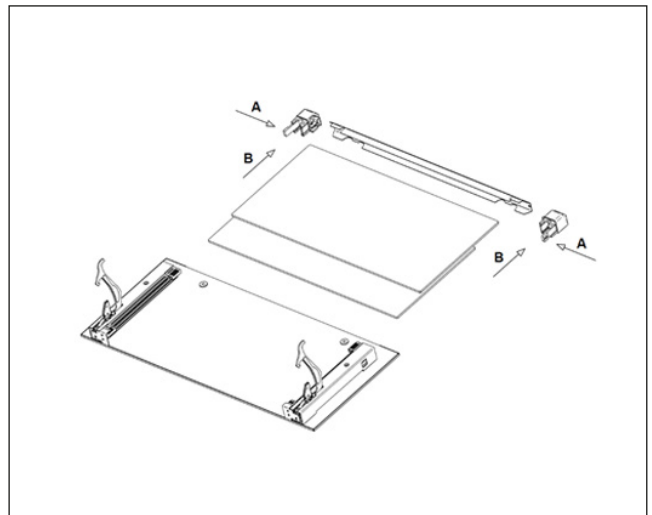

Fig.1
- At this point it is possible to extract the interior pieces of glass with care. Fig. 1-B